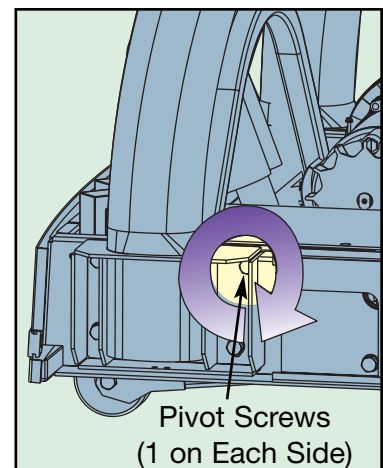

Figure 7
- C. Tighten all 9/16" screws used during steps 7A and 7B including the two pivot screws (one on each side). See Figure 7.